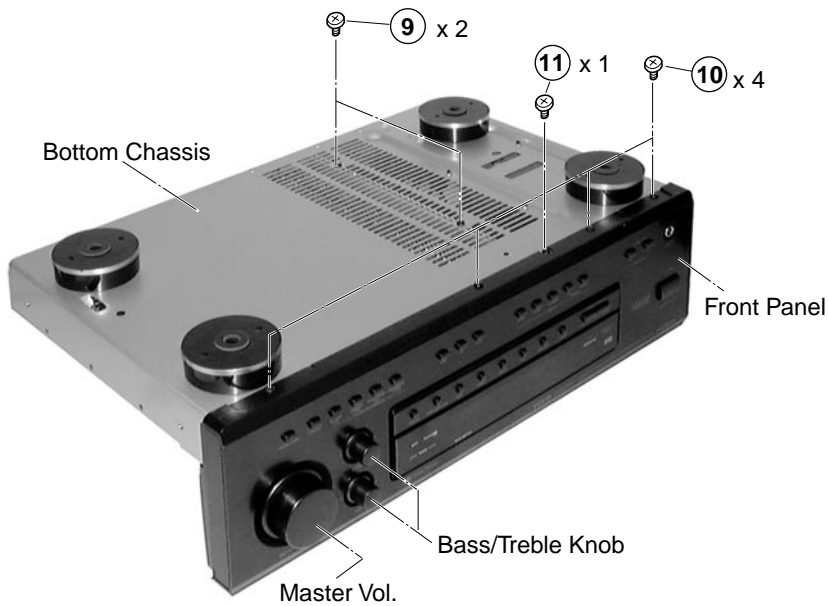

Fig. 5
- (a) Invert the Bottom Chassis, remove 2 screws 9 connect to the heat-sink (Fig 5).
- (a) Release the inner panel from the bottom chassis by remove 1 screw " (Fig 5) and 2 screws #.